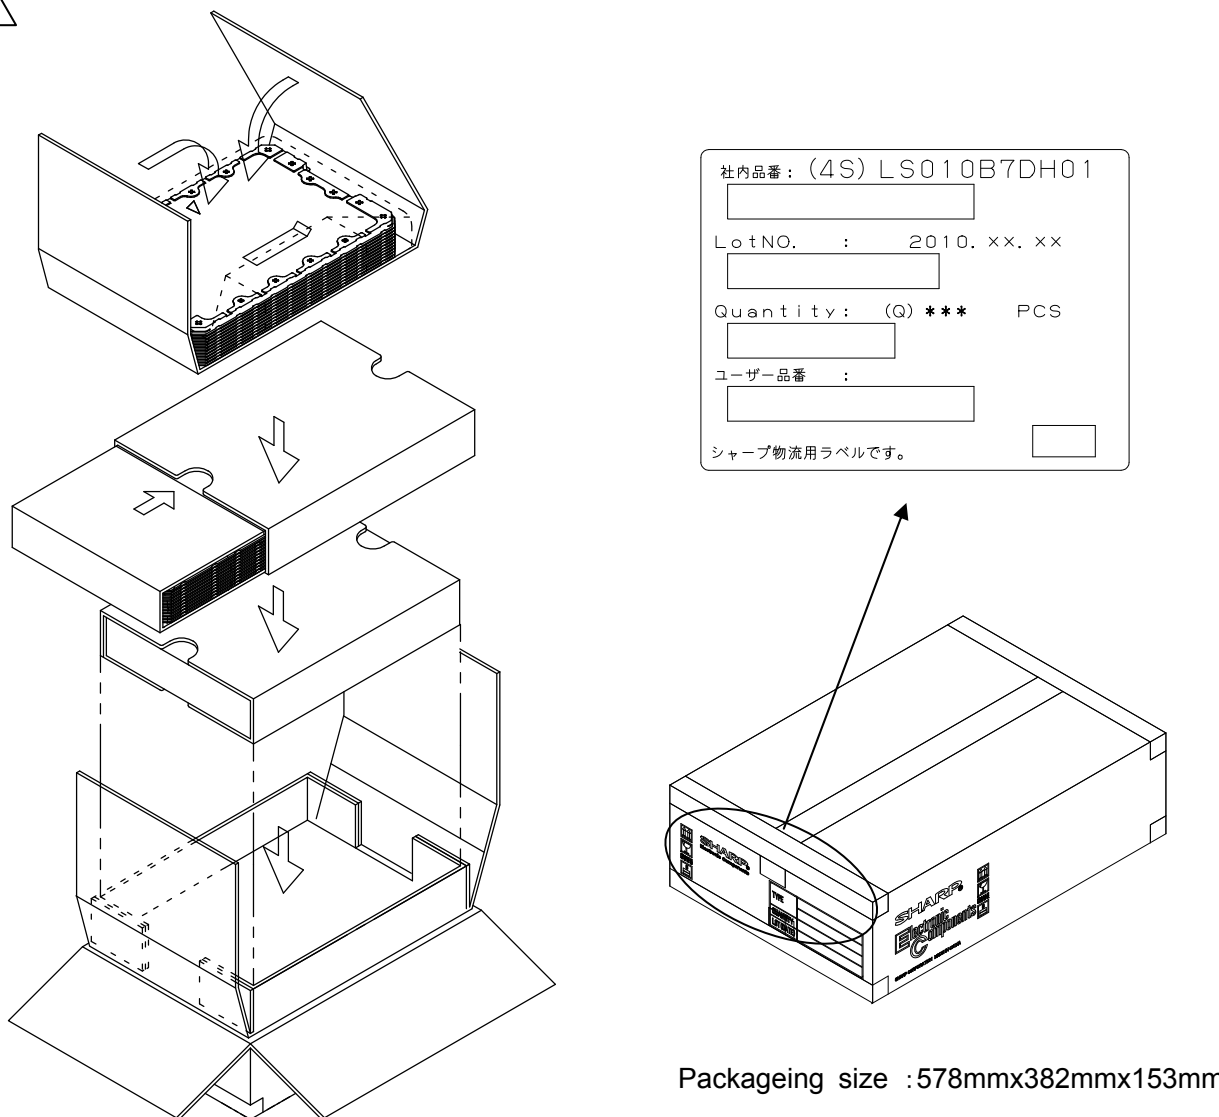

Figure 22 Packing form
**B** 3) Packing form: As shown in figure 22.